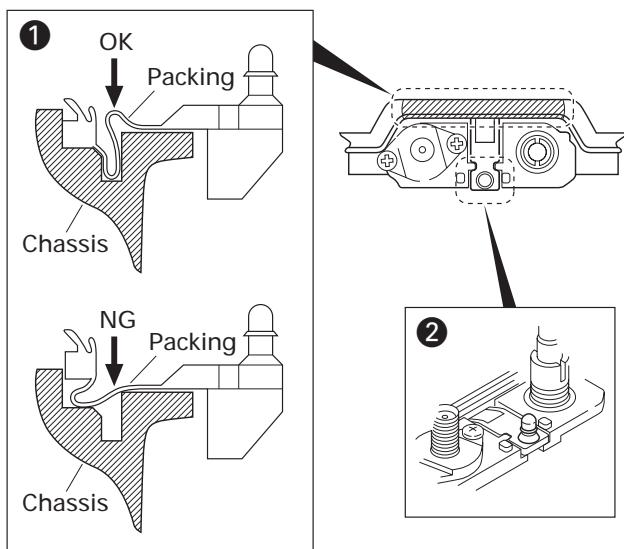

Fig. 5
- (1) To assure waterproofing, install the packing in the chassis groove as shown in Fig. 5. (1)
- (2) Install the packing TX/BUSY lamp section on the chassis. (2)